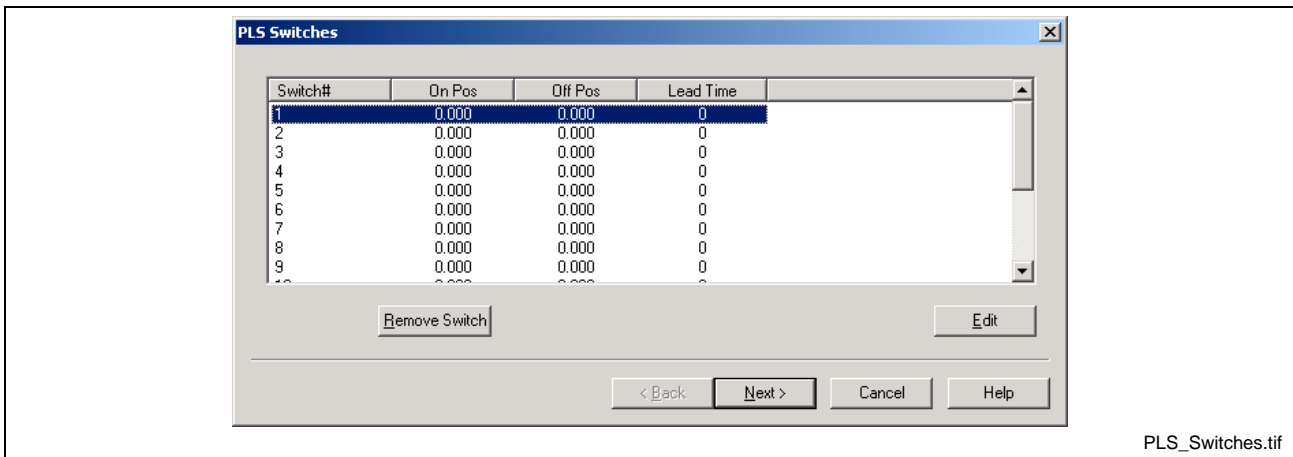

Fig. 8-20: PLS Switches Window
- After the type is selected, the PLS Configuration wizard will guide the user through the initial setup beginning with the *PLS Switches* window in Fig. 8-20. Assign a switch's On/Off position to an output by double clicking on the desired switch number or highlight the switch number and press the **Edit** button.